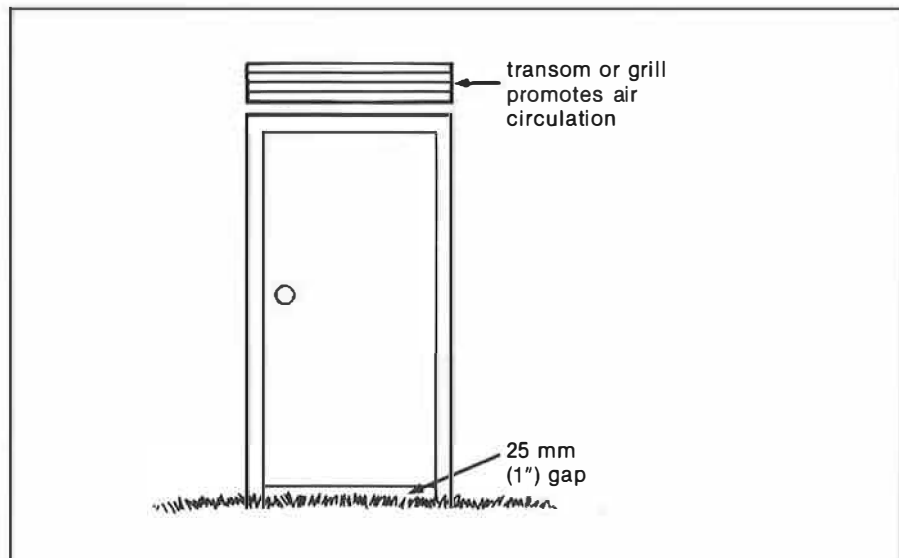

Fig. 7. Improvements to circulation.
- A central exhaust system works most effectively if every interior door is undercut at least 25 mm (1"). See fig. 7.